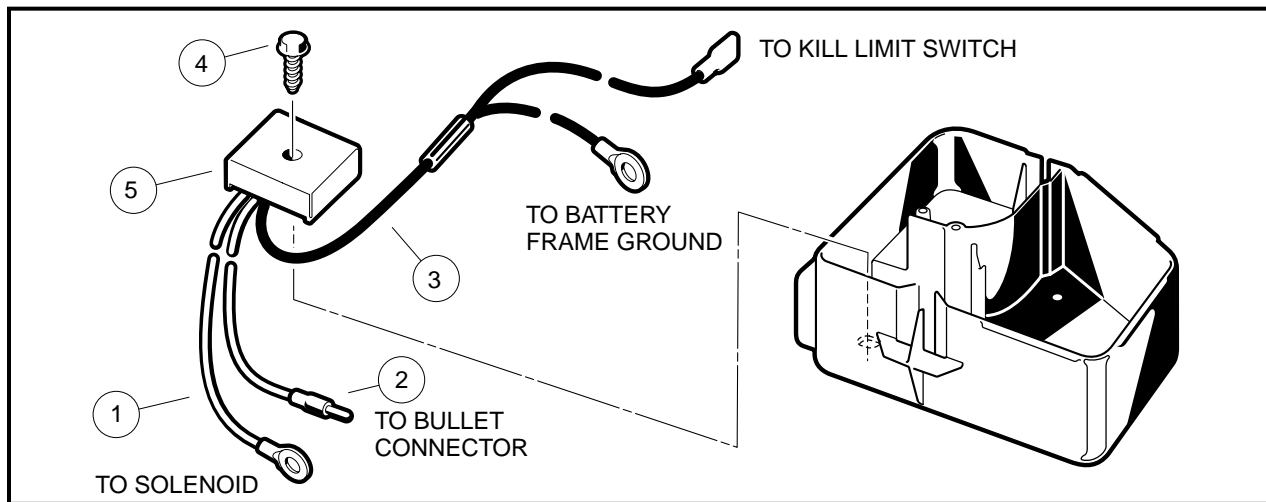

Figure 12-16 Voltage Regulator Installation
3. Disconnect the voltage regulator red wire (1) at the large post on the solenoid and disconnect the yellow wire (2) at the bullet connector (**Figure 12-16, Page 12-13**).
4. Disconnect the voltage regulator black ground wire (3) at the battery frame ground and also from the normally open (NO) terminal of the kill limit switch in the component box (**Figure 12-16, Page 12-13**).
5. Remove the voltage regulator mounting screw (4) and remove the regulator (5).
1. Position the voltage regulator (5) in the electrical component box and install the mounting screw (4) (**Figure 12-16, Page 12-13**). Tighten screw to 23 in-lb (2.6 N·m).
2. Connect voltage regulator red wire (1) to the solenoid, and connect the yellow wire (2) bullet connector.
3. Connect the black ground wire (3) to the battery frame connection bolt (ring terminal) and also to the normally open (NO) terminal (slip on) of the kill limit switch (**Figure 12-16, Page 12-13**). Install a new wire tie.